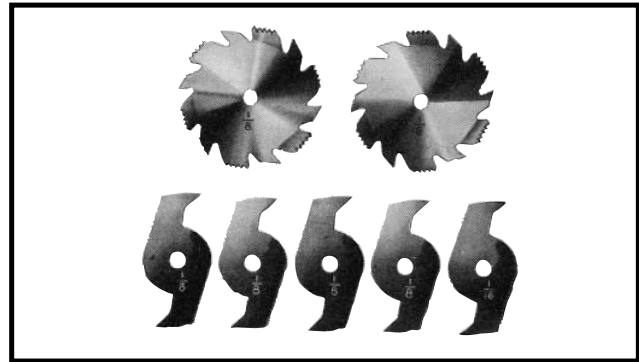
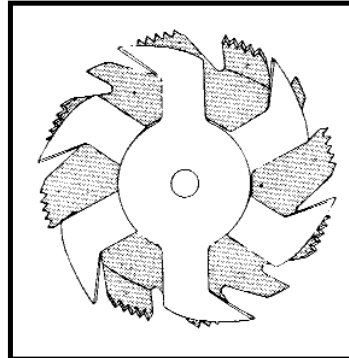
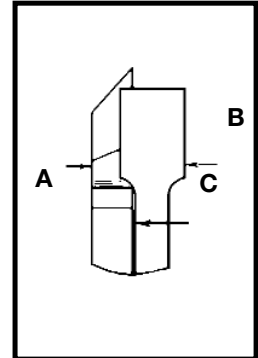

Fig. 44A
Fig. 45
Fig. 46
1. Dadoing is cutting a rabbet or wide groove into the work. Most dado head sets are made up of two outside saws and four or five inside cutters, (Fig. 44A). Various combinations of saws and cutters are used to cut grooves from 1/8" to 13/16" for use in shelving, making joints, tenoning, grooving, etc. The cutters are heavily swaged and must be arranged so that this heavy portion falls in the gullets of the outside saws, as shown in Fig. 45. The saw and cutter overlap is shown in Fig. 46, (A) being the outside saw, (B) an inside cutter, and (C) a paper washer or washers, used as needed to control the exact width of groove. A 1/4" groove is cut by using the two outside saws. The teeth of the saws should be positioned so that the raker on one saw is beside the cutting teeth on the other saw.